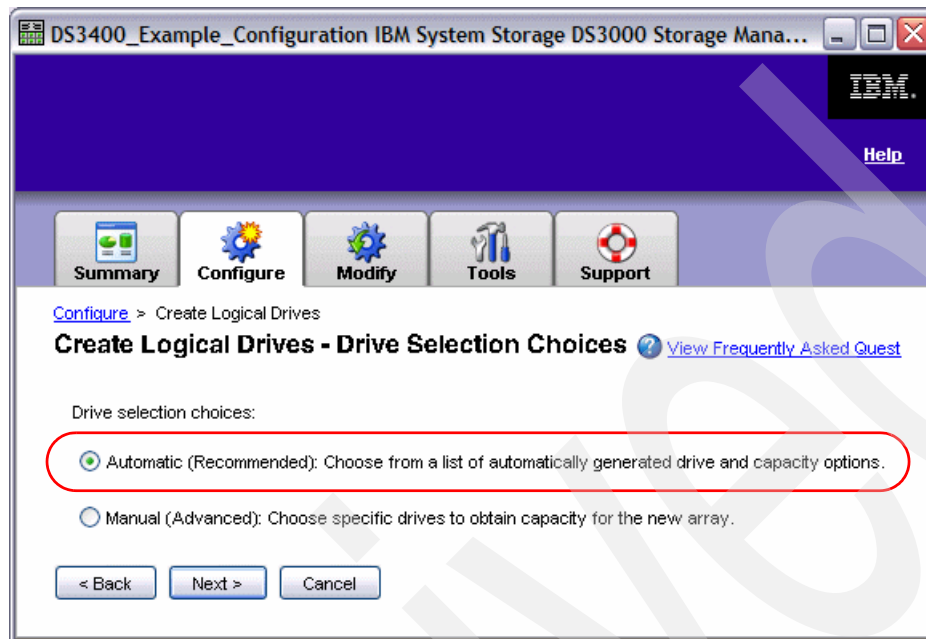

Figure 26-14 Drive Selection Choices
4. In Figure 26-14, there are two drive selection choices. We select **Automatic.**